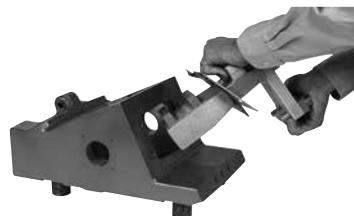

FIGURE 11
8. Insert armature and diaphram assembly through opening in front of base casting as shown in Figure 11.